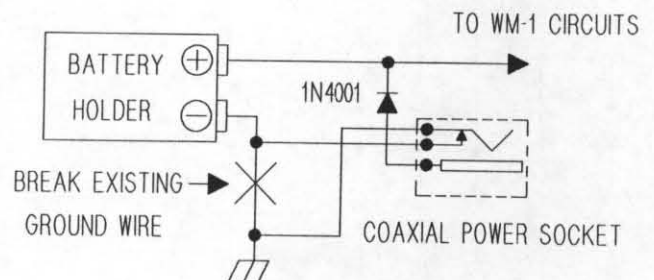

Figure 8
On the back panel, install the special coaxial power plug with the built in NC switch. Wiring is shown in Figure 8. First disconnect the black lead from the 9V battery negative terminal from the ground lug and reconnect it to the pin (NC) on the 3 pin power jack that is disconnected when a plug is inserted into the jack (use an ohm meter to check how the NC switch works when you insert and extract a coaxial plug). Next, add a black wire from the other pole of the NC switch (left) to the empty ground lug. And finally, connect the hot (center) pin of the jack to the plus terminal of the 9 volt battery holder putting a "reverse voltage" protection diode (1N4001 etc.) in series with the lead (cathode pointing towards the battery holder connection). Button everything back up and you now have some neat and simple features for your WM-1.